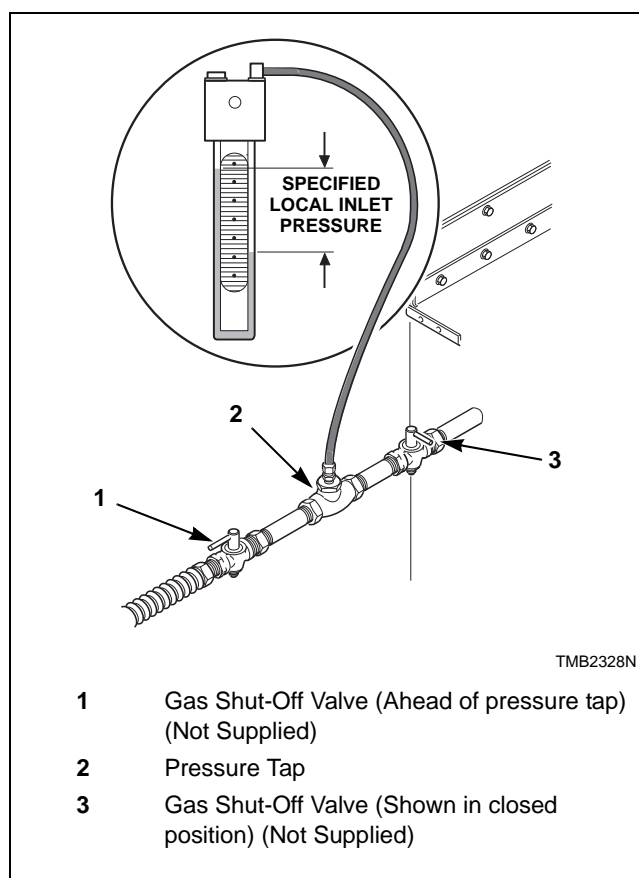

Figure 14
1. Disconnect electrical power from tumble dryer. Close gas shut-off valve to tumble dryer. Refer to *Figure 14*.